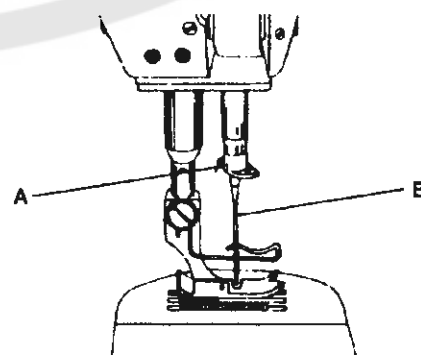

Fig. 9
Be sure to choose the correct needle size and system (as a rule, system 134), loosen the screw (A, Fig. 9) on the needle bar in the needle holder, insert the needle (B) up to the stop into the hole provided in the needle bar (needle holder), and turn it so as to ensure that its long groove is directed forward (towards the operator). If inserting a bigger (thicker) needle, check it for possible collision with the hook point and, in positive case, let adjust the hook position by a skilled person. Also check whether the needle passes through the centre of the needle aperture, and replace the needle if faulty.